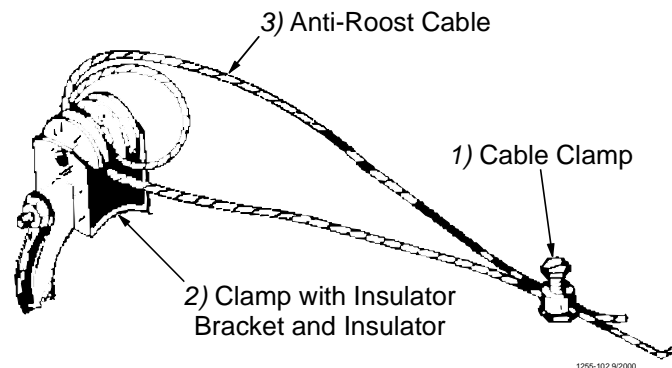

Figure 45. Anti-Roost Cable at the Hopper
2. Start at the hopper end of the line and form a loop around the anti-roost bracket. For best results, make a double loop around the anti-roost insulator in the center groove of the insulator and fasten with a 1/16" cable clamp as shown in **Figure 45**.